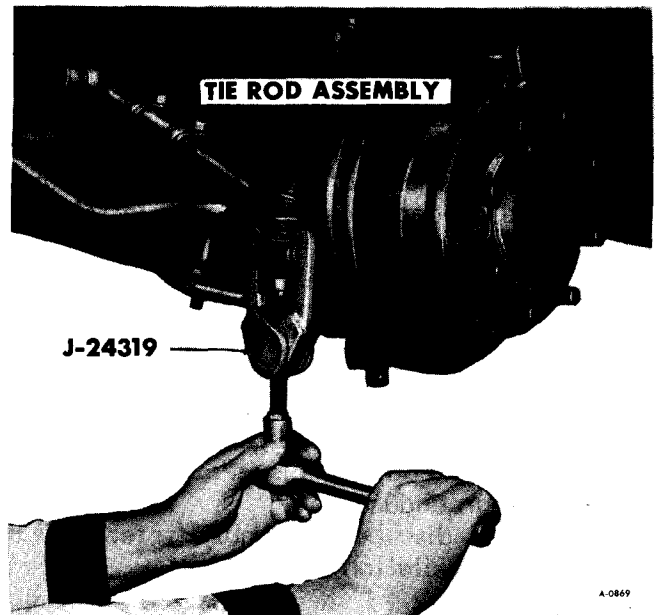

Figure 16—Removing Tie Rod End
6. Using Tool J-21319, remove tie rod end as shown in figure 16.